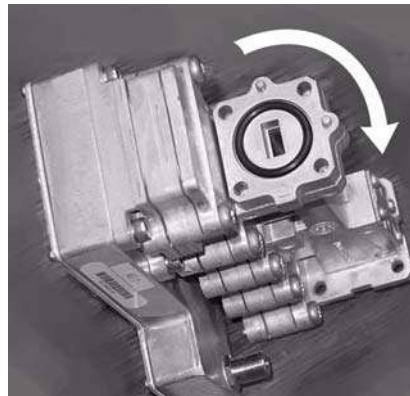

Figure 25: Direction of TRIA rotation for vertical polarization
Because of the shim's alignment pins, you must rotate the TRIA 90° from its horizontal polarization position. You must rotate the TRIA *before* you re-attach the waveguide end so you can insert the shim alignment pins into the waveguide end plate. See Figures 25 and 26.
6. Make sure the O-ring shown in Figure 25 on page 34 is in place in the shim.